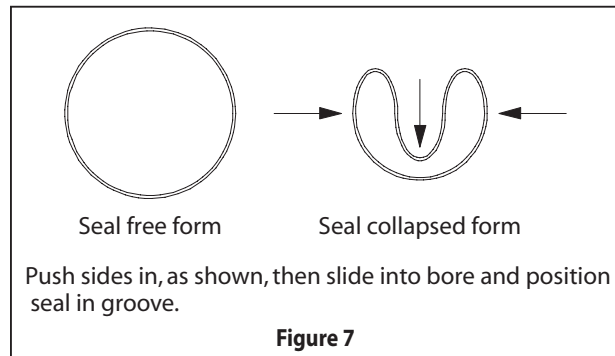
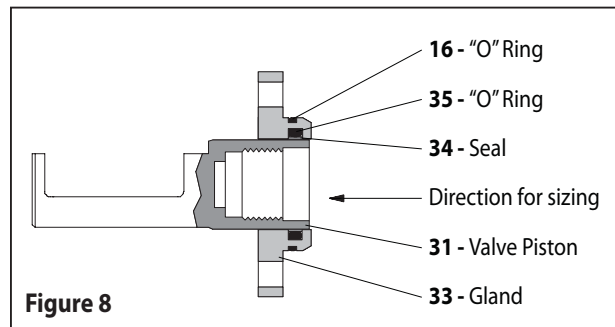

Figure 7
Figure 8
13. Align holes in (39) gland and (19) head assembly and secure with four (22) screws.
14. Install (21) "O" ring on (19) head assembly.
15. Push (36) extension rod thru (41) "O" ring in the base of (19) head assembly.
16. Press (19) head assembly down, seating against (28) cylinder and (29) tube assembly.
17. Insert four (42) bolts down thru the holes in the flange of (19) head assembly and (30) base assembly.
18. Screw four (47) nuts on (42) bolts. Alternately and evenly tighten four (47) nuts.
19. Install (20) "U" cup in (38) adapter, with the lips down toward the thick flange of (38) adapter.
20. Install (35 and 16) "O" rings in the (33) gland.
21. Bend (34) seal in a heart shape (see figure 7 below) and install in (33) gland, next to (35) "O" ring (see figure 8 below).